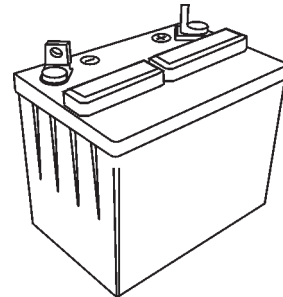

**Figure 10. Transmission Reservoir**
**DO NOT** over fill the fluid reservoir (Figure 10). Note the level marks on the reservoir. **It is essential to reference the existing oil conditions (A) cold or (B) hot prior to operating the saw.** Overfilling the transmission with hydraulic fluid may cause the seals to **rupture** causing mechanical damage.